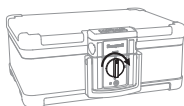

Figure 2.2
2. Turn the knob to the right to the unlocked position (Figure 2.2).